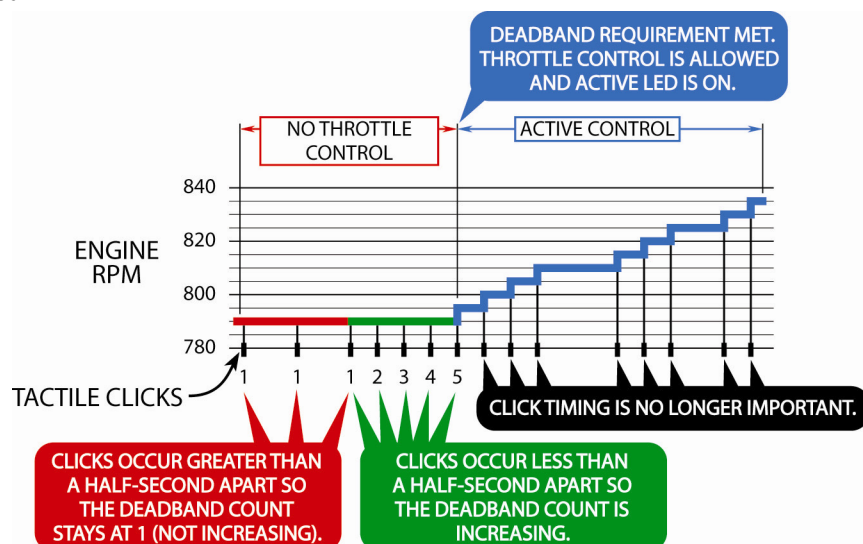

Figure 7. Initial deadband explanation.
In the previous graphic (Figure 7) the first three tactile clicks are more than a half-second apart and are not counted for the required number of deadband clicks. The next series of tactile clicks are a half-second (or less) apart and the deadband counter counts each one up to the required number of clicks (5). The Twister then activates the blue **ACTIVE** LED and allows active throttle control. Subsequent tactile clicks change the RPM of the engine and the timing between clicks is not important. The initial deadband requirement will not be required again until the IDLE button has been pressed and the engine RPM has been reduced to curb idle.